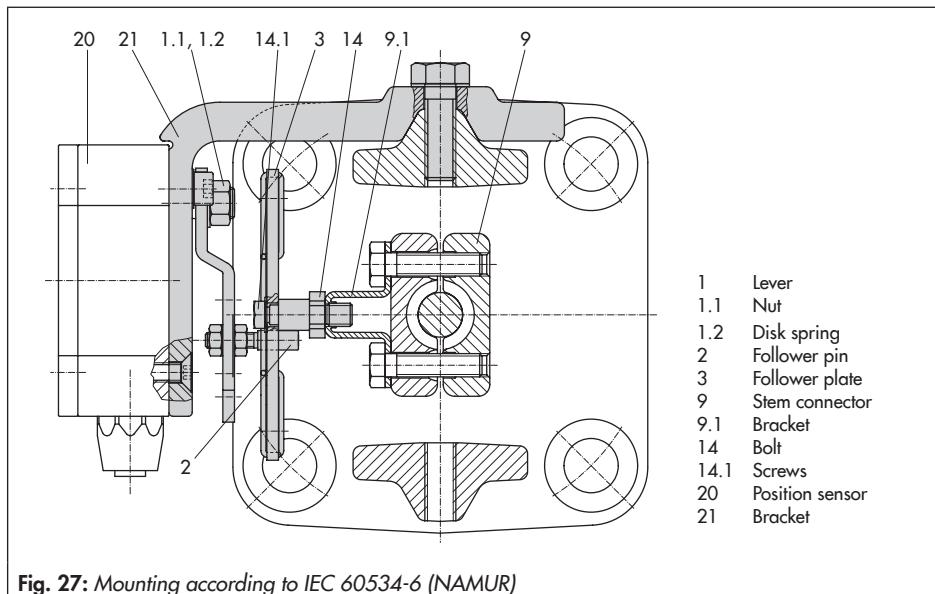

Fig. 27: Mounting according to IEC 60534-6 (NAMUR)
The signal pressure from the positioner is routed over the signal pressure connection of the connecting plate (9, Fig. 27 left) to the actuator diaphragm chamber. To proceed, first screw the connecting plate (9) included in the accessories onto the actuator yoke.
- Turn the connecting plate (9) so that the correct symbol for the fail-safe action "actuator stem extends" or "actuator stem retracts" is aligned with the marking (Fig. 27, below).
- Make absolutely sure that the gasket for the connecting plate (9) is correctly inserted.
→ Refer to Fig. 27